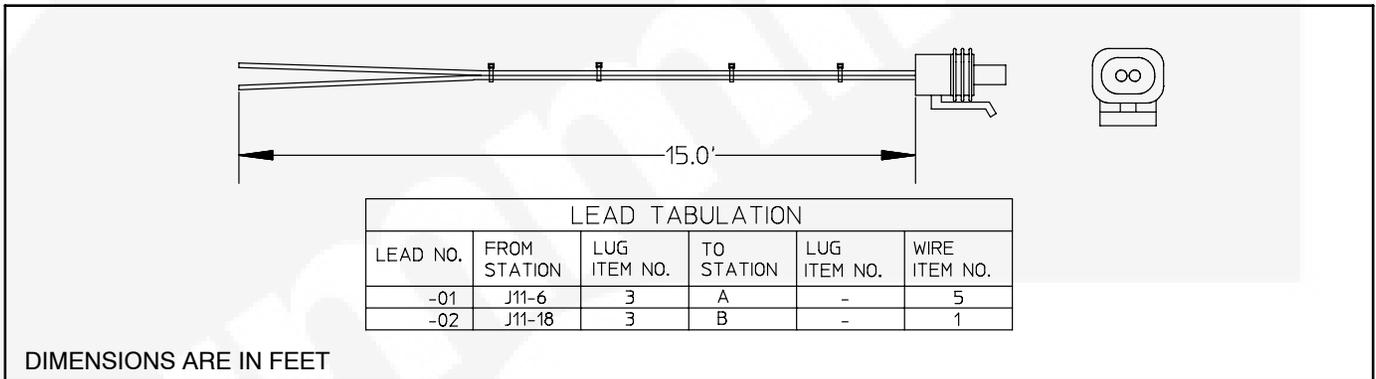

FIGURE 3-22. COOLANT TEMPERATURE SENSOR HARNESS
- c. Connect the color-coded control harness wires marked P11-6 and P11-18 to the coolant temperature sensor harness wires marked J11-6 and J11-18 (see Figure 3-22).